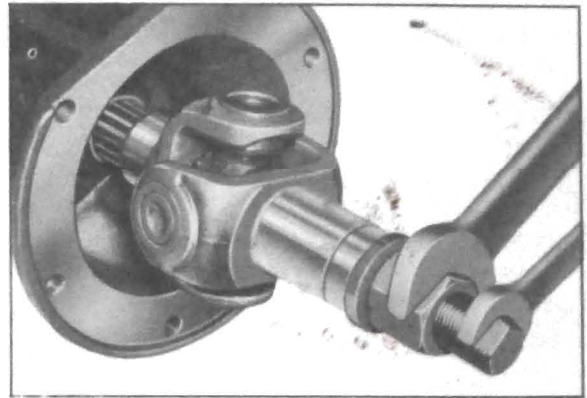

Figure 4-33—Installing Universal Joint with Replacer
(3) *Universal Joint.* Use Replacer J 865 to install universal joint on main shaft. See figure 4-33.